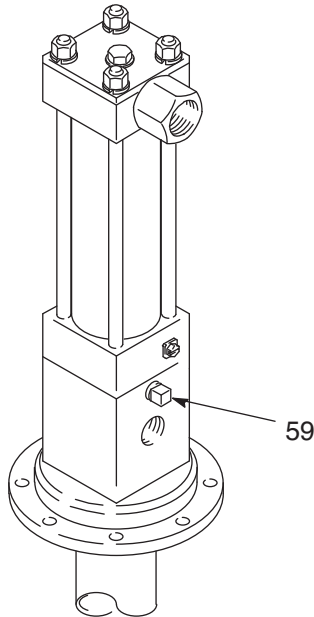

FIG. 3
- Drain Line (W): Remove the plug (59) from the pump adapter, and install a 1/8-27 npt(f) tube fitting and weep tube (B), ending in a waste container. Monitor the weepage of hydraulic fluid. If it seems excessive or increases suddenly, the reciprocator/pump seals may need to be changed. (FIG. 3)
- Fluid-filled pressure gauge (M): Monitors hydraulic pressure to the reciprocator during start up. Use the gauge for initial adjustment of the reciprocator. It can be removed after adjustment is made.